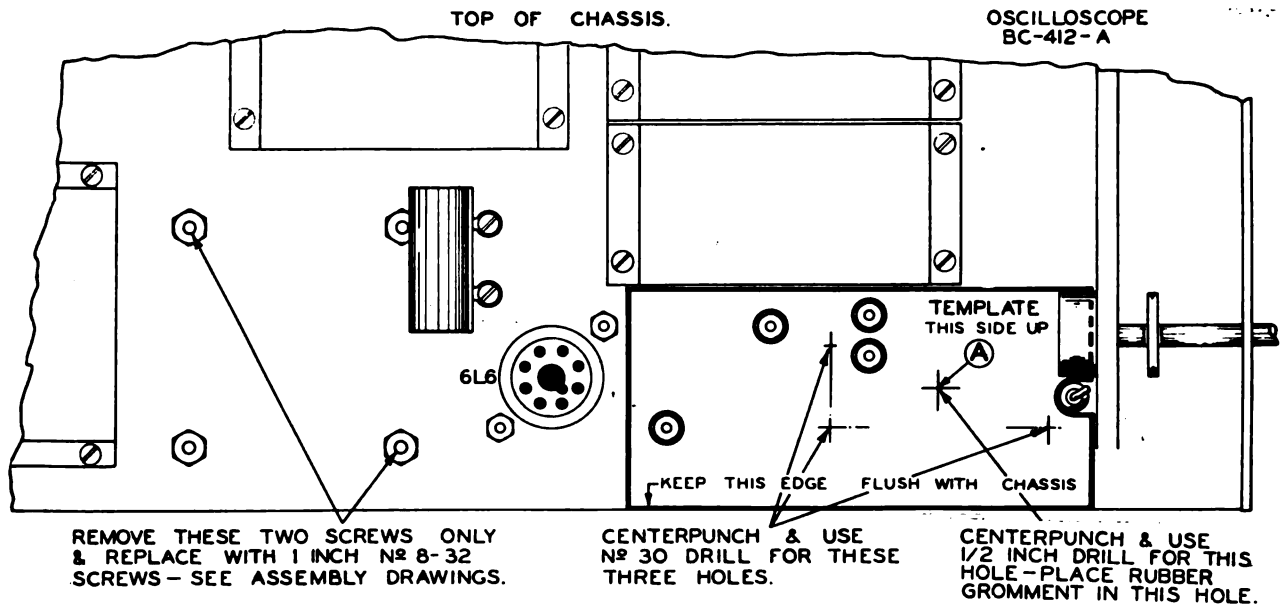
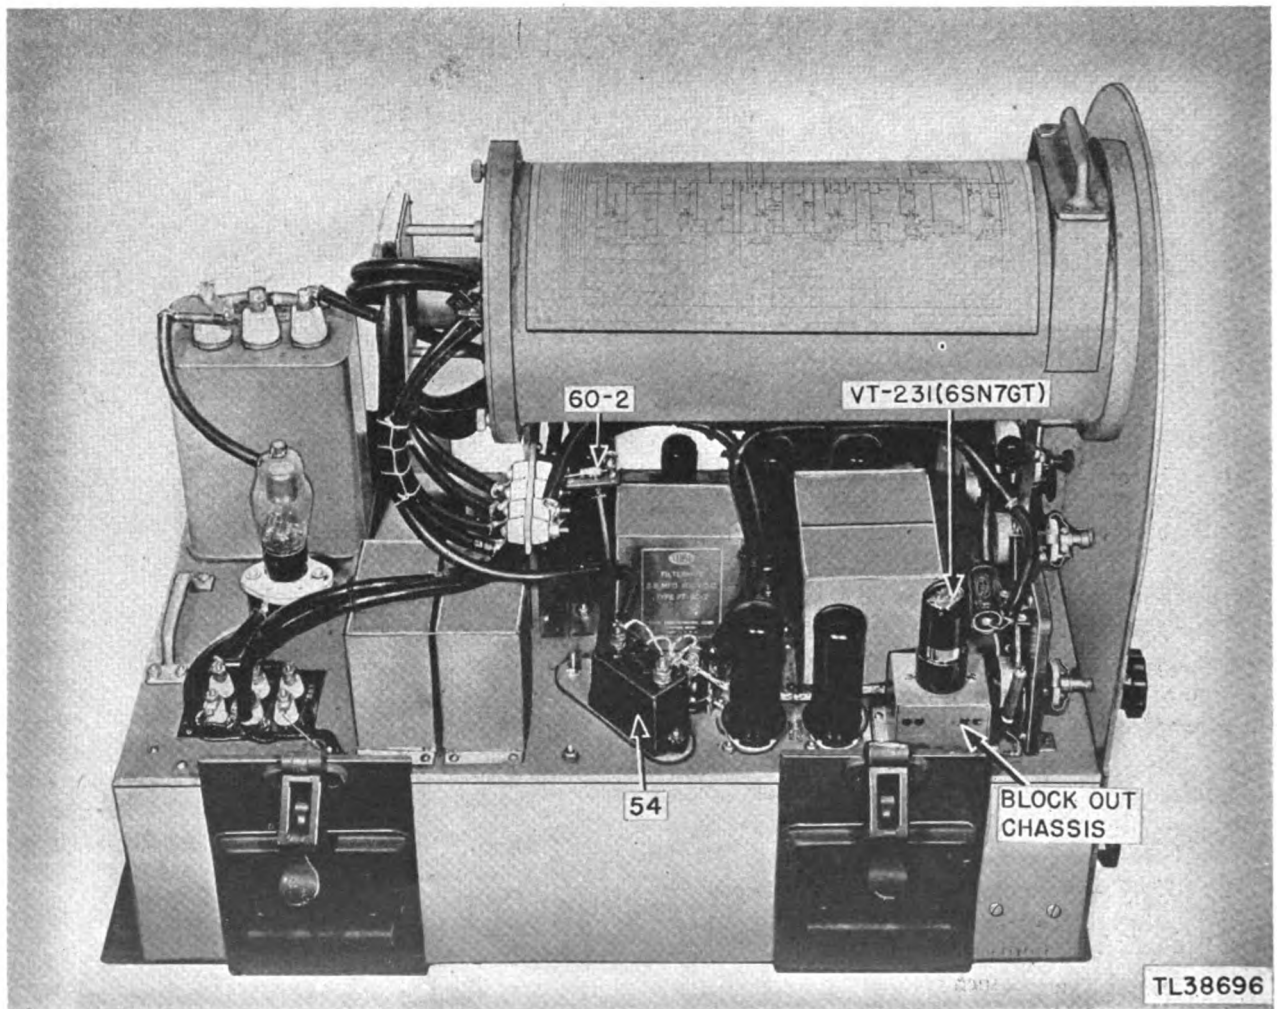

Figure 46. Drilling template for mounting blockout chassis on Oscilloscope BC-412.
Figure 47. Side view of Oscilloscope BC-412 after conversion.
(1) Place the drilling template which is furnished with the oscilloscope conversion kit in position on top of the oscilloscope chassis as shown in figure 46.
(2) Drill three holes in the top of the oscilloscope chassis with a No. 30 drill and drill one  $\frac{1}{2}$ -inch hole, as shown in figure 46.
(3) Insert one  $\frac{1}{2}$ -inch rubber grommet in the  $\frac{1}{2}$ -inch hole.
(4) Place the retrace blackout chassis (fig. 18, B) on the oscilloscope chassis as shown in figure 47.
(5) Feed the six-lead cable (fig. 18, C) through the  $\frac{1}{2}$ -inch grommet (fig. 46, A) on the oscilloscope chassis.
(8) Remove the two diagonal mounting screws marked X, which hold the choke (part No. 44-1 of the oscilloscope) as shown in figure 46. Replace these screws with the two 8-32 x 1" screws (fig. 18, E) using the original nuts and washers, and tighten the choke in place.
(1) It will be necessary to enlarge the hole in the outside case of the Oscilloscope BC-412 to permit the insertion of the new 12-prong receptacle. Use a bastard file which is part of the tool kit of the Radio Set SCR-268-(\*).
(2) On Radio Sets SCR-268-B and SCR-268-C this hole may be enlarged by using the reamer which is part of the tool kit of the equipment.
(3) Glue the revised print of the oscilloscope schematic circuit, furnished with kit, over the present print on the shield which houses the cathode-ray Tube VT-111 (5BP4) (fig. 47).